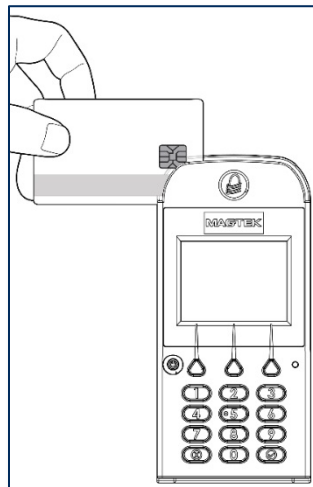

Figure 6-14 - Swiping a Magnetic Stripe Card
- 2) Locate the magnetic stripe reader on the top of the device, shown in **Figure 6-14**.